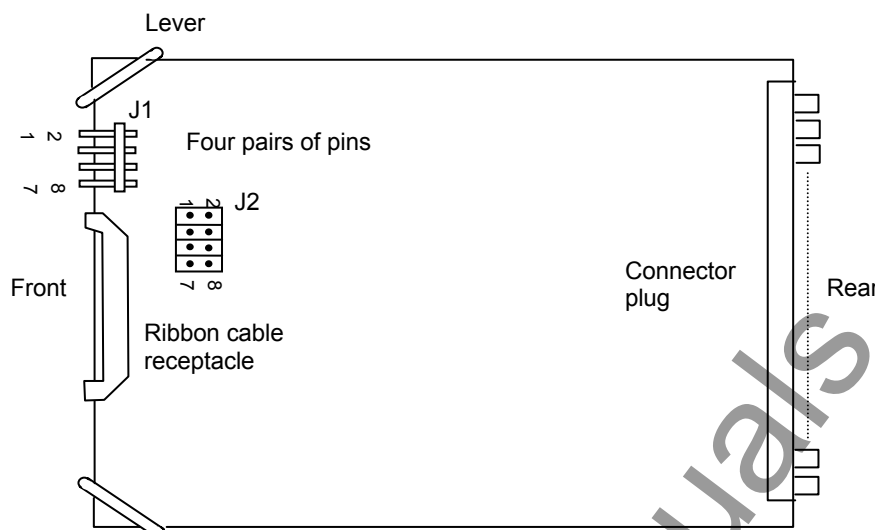

Figure 2.9.2 FD Module
- Four pairs of pins J1 and J2 are arranged lengthwise on the front at the top of the module as shown in Figure 2.9.2.